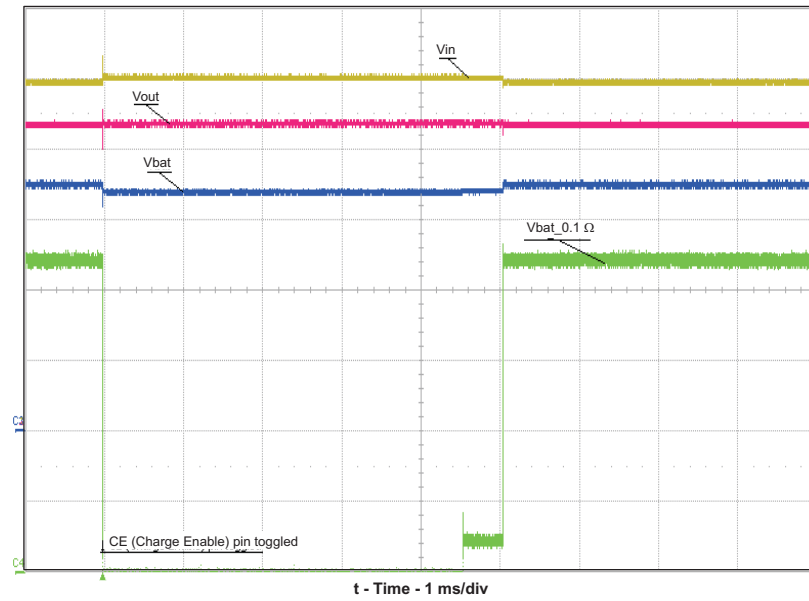

Figure 4. Charge Enabled, Pulled High, Then Low – Disables Charge
19. Allow the battery to continue to charge until the battery reaches voltage regulation, $\sim 4.2\ \text{V} \pm 40\ \text{mV}$ for bq24072/3/4/5/9(T) and $4.1\ \text{V} \pm 4\ \text{mV}$ for bq24079(T). Verify that the voltage is regulated as the current tapers over the next one-to-two hours depending on the battery capacity. See Figure 4 for a charge profile (time in plot is not proportional to actual charge time).
22. Turn off P/S#1, and allow the system load to discharge the battery until a refresh charge is initiated. Verify that the battery voltage dropped to $\sim 4.1\ \text{V}$ for bq24072/3/4/5 and to 4.0 V for bq24079(T) prior to refresh.